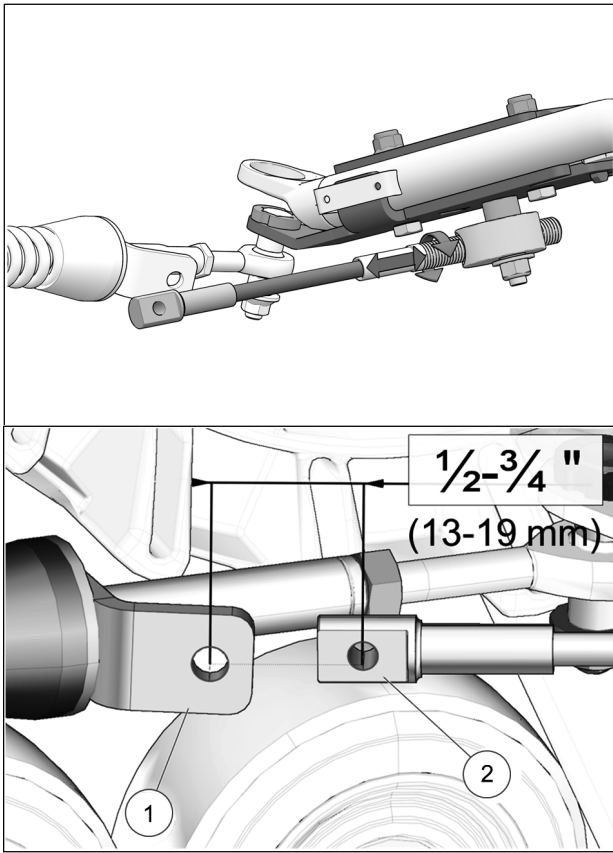

Fig. 20
12. Turn the vehicle's steering wheel to its maximum point of travel on the left. While maintaining pressure on the steering wheel, turn threaded rod to adjust length of cable so that the cable end hole (1) is located 13 to 19 mm [$\frac{1}{2}$ to $\frac{3}{4}$ in.] short of the mounting hole on the support plate (2). See Fig. 20